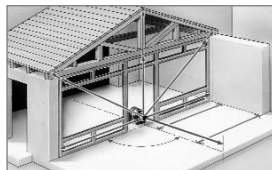

Bild 1
- When installing separating walls, align the reference beam parallel to the wall (see Fig. 1).